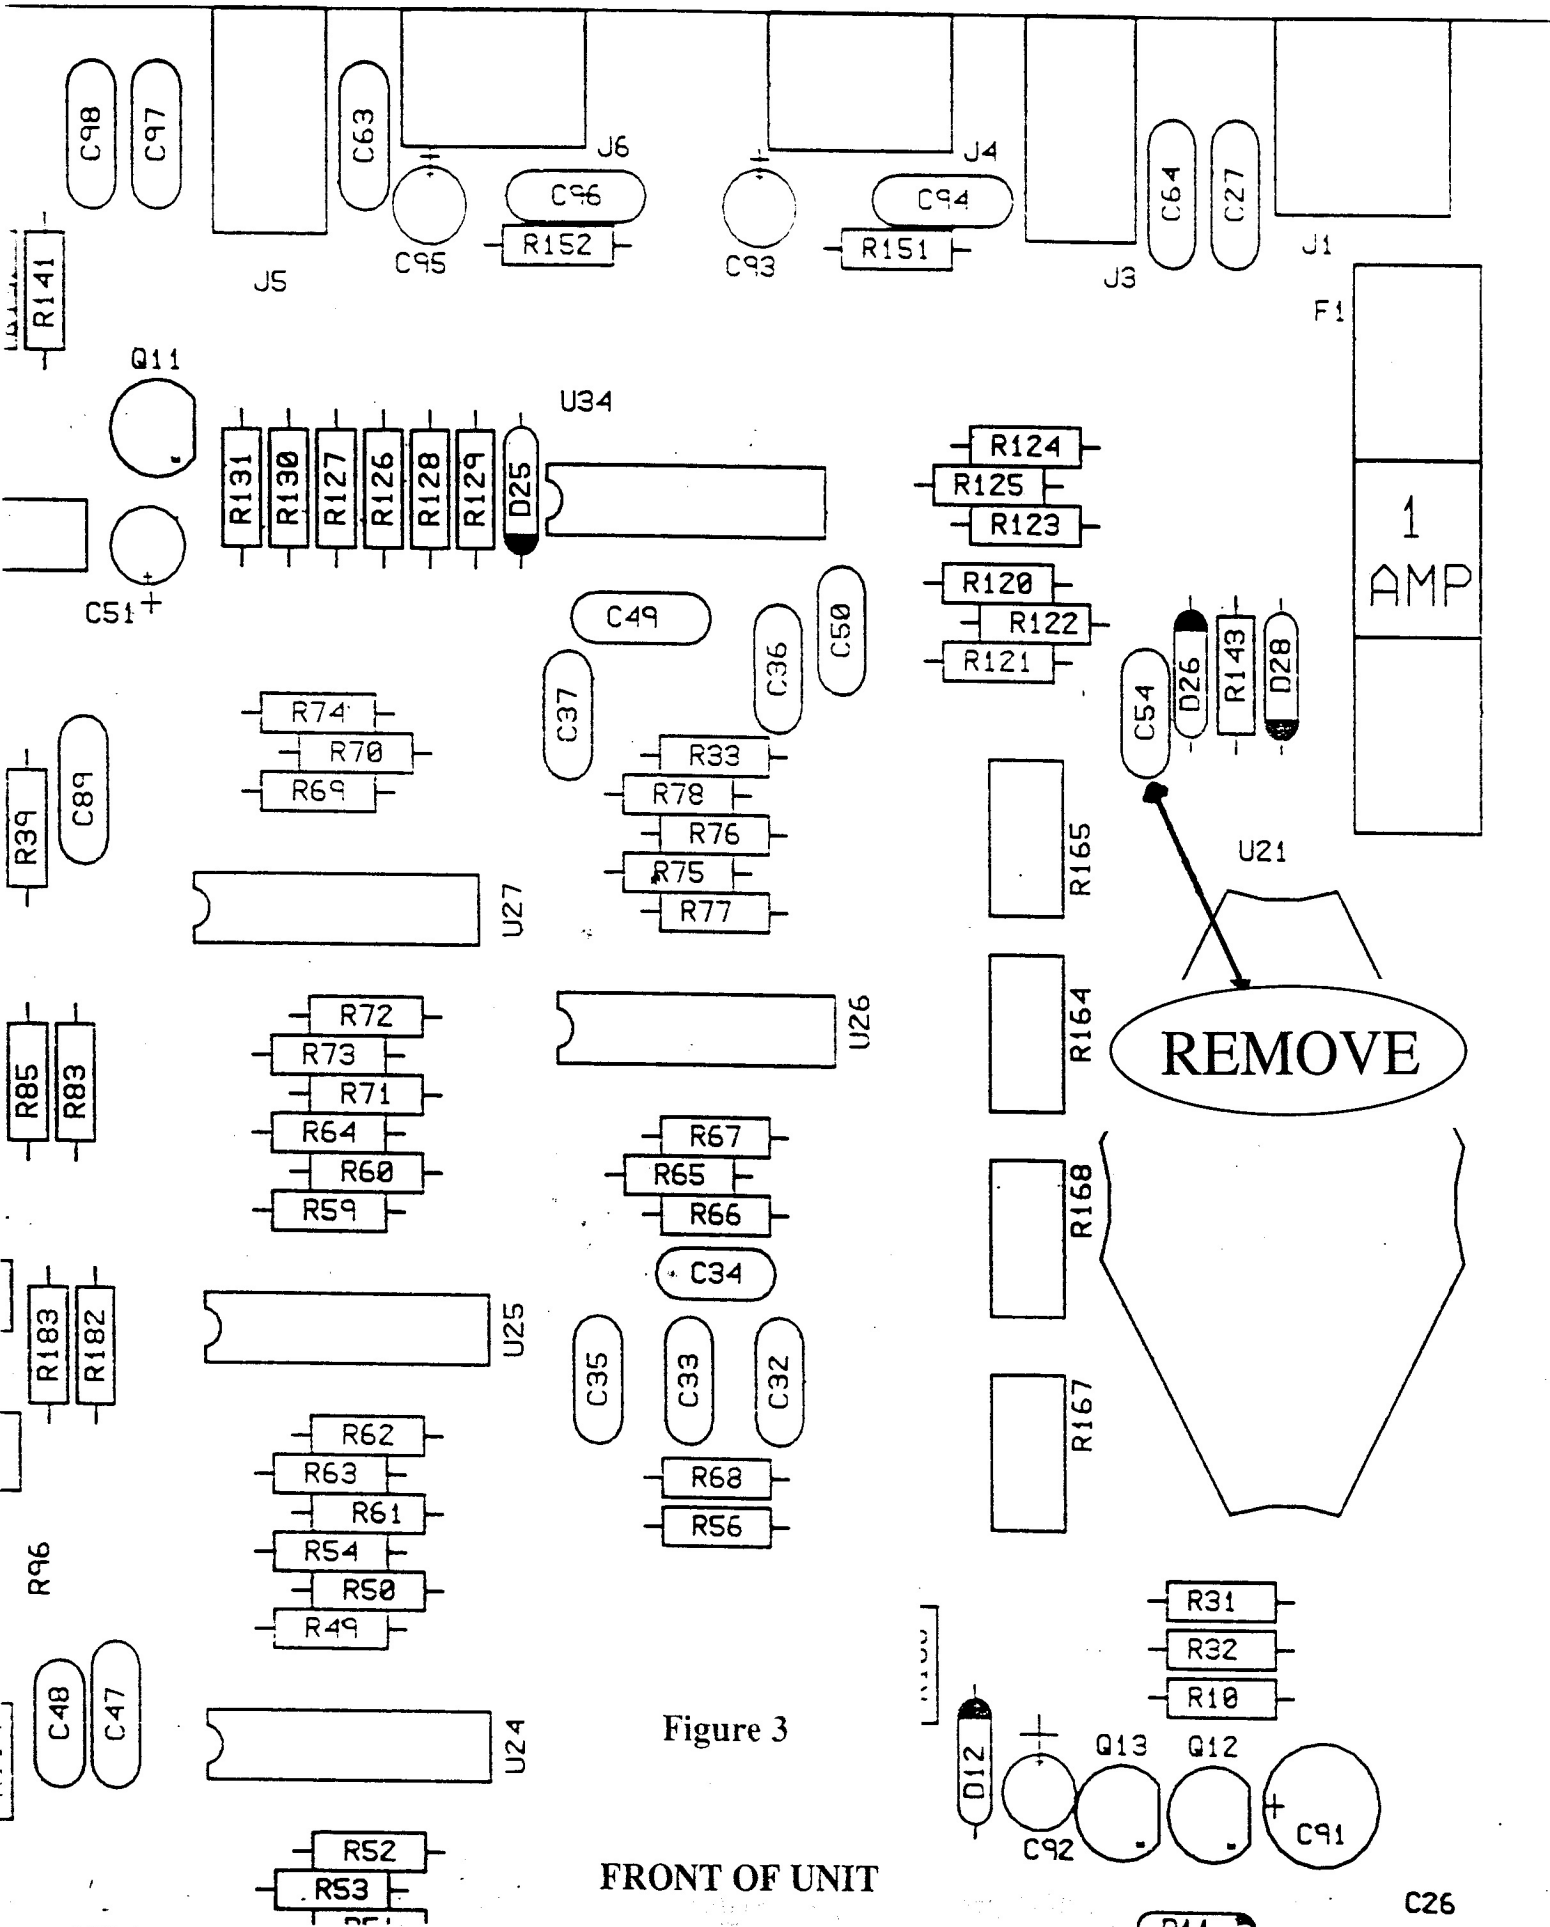

Figure 3
- 4) Locate and remove C-54 (located to the left of the fuse) using the wire cutters or nippers. (see fig. 3)